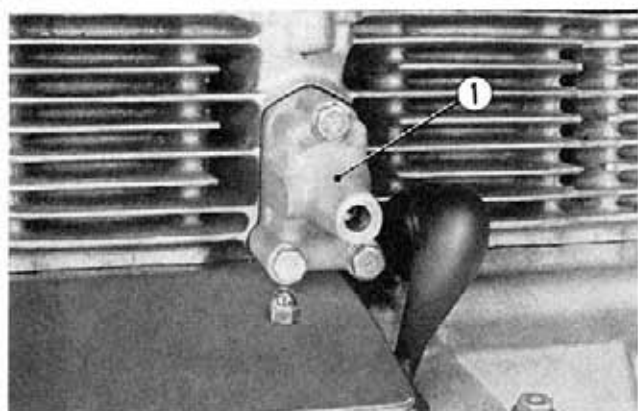

Fig. 3-24 ① Cam chain tensioner holder
4. Detach the cam chain tensioner holder from the cylinder. (Fig. 3-24)